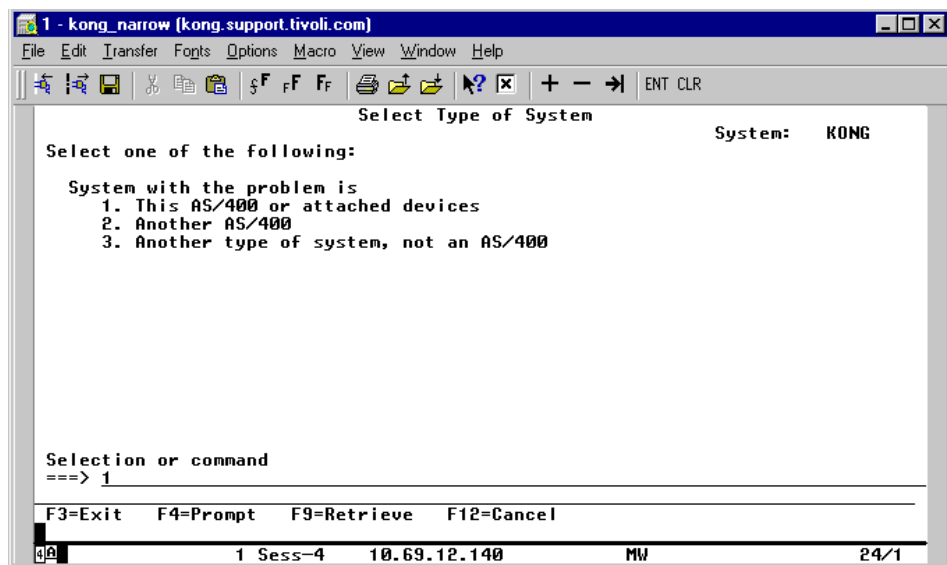

Figure 180. ANZPRP: Select Type of System
- a. Enter the `ANZPRB` command and press **Enter**. This will bring up the panel shown in Figure 180.